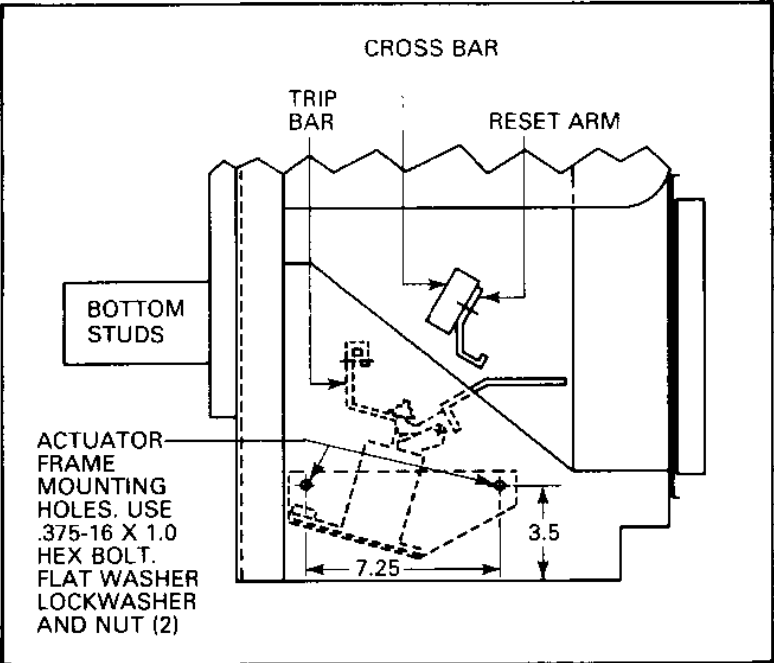

Fig. 9 Left Side View
- 3. Locate the two (2) .50 holes on the left side of the breaker frame – See Fig. 9. Attach the actuator base to the left side using .375-16 1.0 hex bolt, lockwasher, flat washer and nut. The two (2) actuator leads should be located between the left inside frame and the actuator housing.
- 4. Move the trip paddle assembly so that the paddle is located under the left side of the flange nut (viewing from the front) and secure the trip assembly to the bar. See Fig. 9.
- 5. Viewing the breaker from the front, remove the .375-16 x 1.5 hex bolt located on the far left side of the cross bar. Place the reset arm between the bolt head and lockwasher (Fig. 9), tighten the bolt being positive that the locking clip is in its previous position.